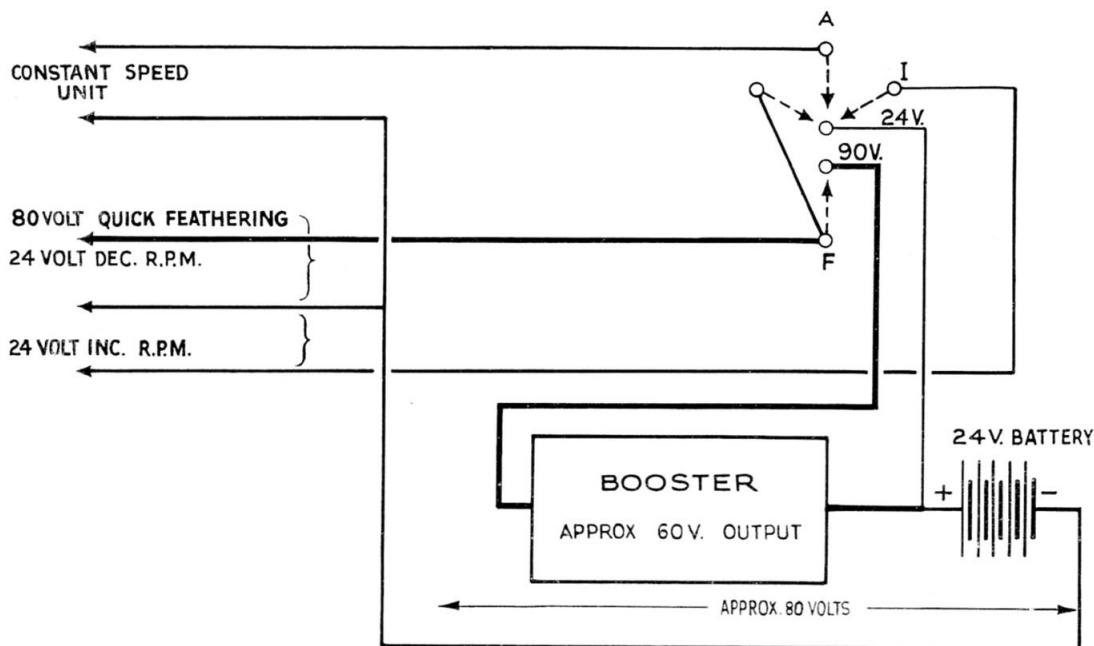

Fig. 5. Installation circuit diagram
5. The positions of the switch lever as indicated on the dashboard are: Up—AUTOMATIC, Left—DECREASE R.P.M., Right—INCREASE R.P.M., and Down—QUICK FEATHERING. The circuits to which the rear terminals of the switch are connected are shown in fig. 5.